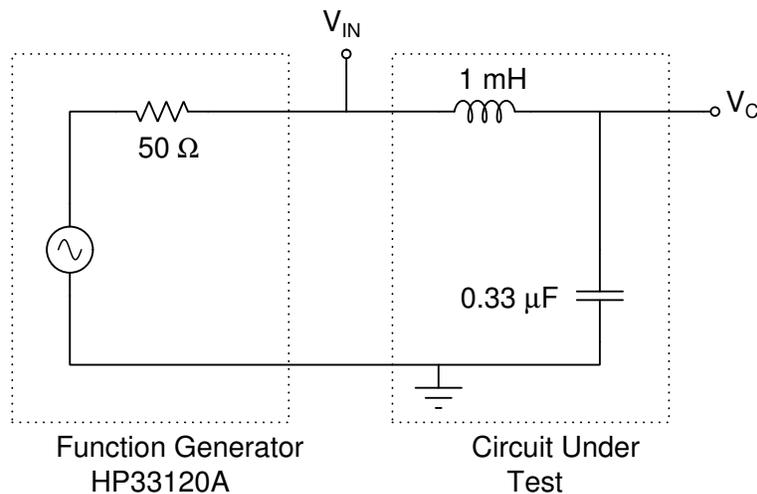

Figure 1: RLC Circuit to build.
Analyze the RLC circuit in Figure 1 mathematically.
3. Build the RLC circuit shown in Figure 1.